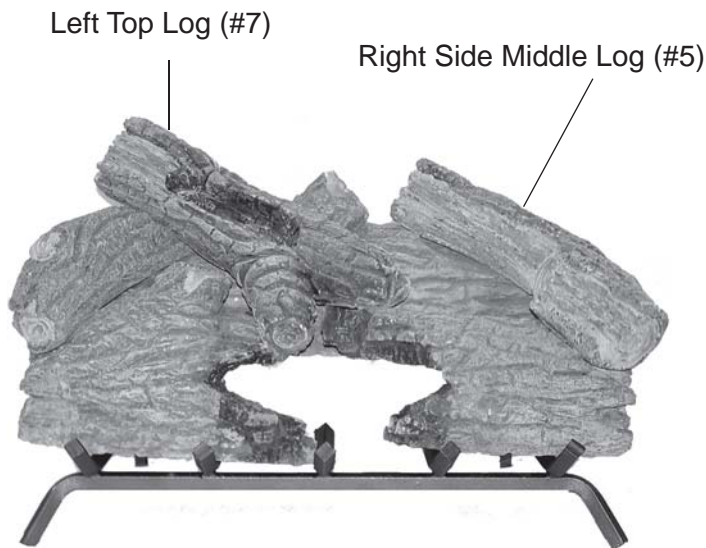

Figure 23 - Installing Right Side Middle Log (#5) and Left Top Log (#7)
6. Install right side middle log #5 as shown. See *Figure 23*.
7. Install left top log #7 as shown. *See Figure 23.*